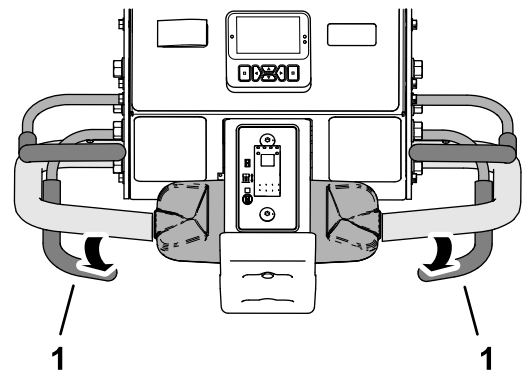

Figure 85
- As the front tire rolls over the perimeter of aeration area, release the aerate bail (Figure 85).